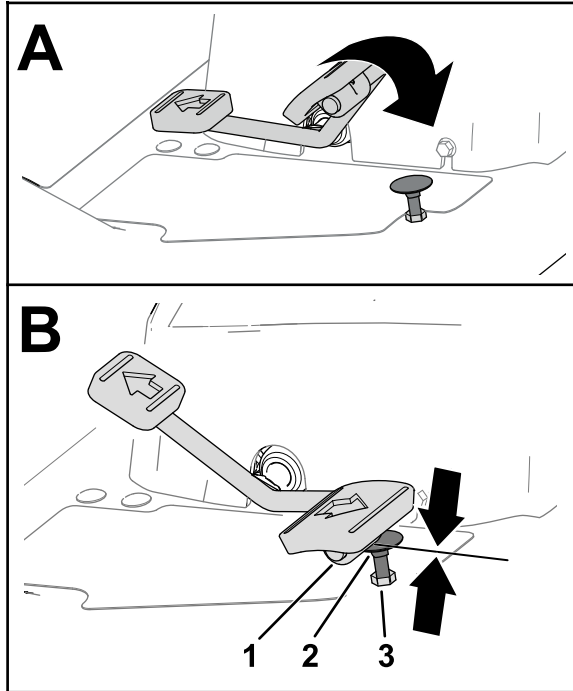
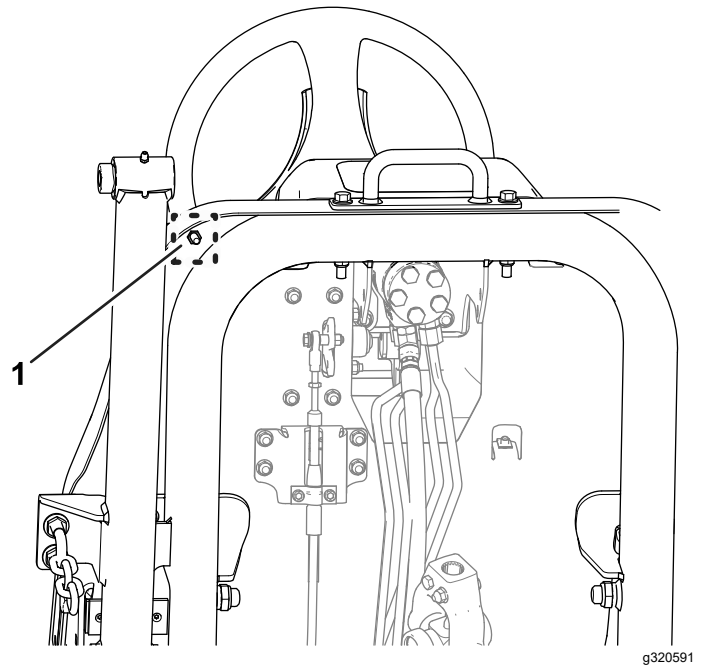

Figure 77
Figure 78
1. Move the traction pedal fully forward (Figure 77).
- A. Hold the traction-pedal stop (Figure 77) with a wrench.
- B. Loosen the jam nut at the bottom of the footrest plate (Figure 78).
- C. Move the traction pedal to the full forward position (Figure 77).
- D. While holding the traction-pedal stop, adjust the jam nut that is above the footrest plate (Figure 77) until the traction pedal makes contact with the stop.
- F. While holding the traction-pedal stop, torque the jam nut at the bottom of the footrest plate (Figure 77 and Figure 78) to 37 to 45 N·m (27 to 33 ft·lb).